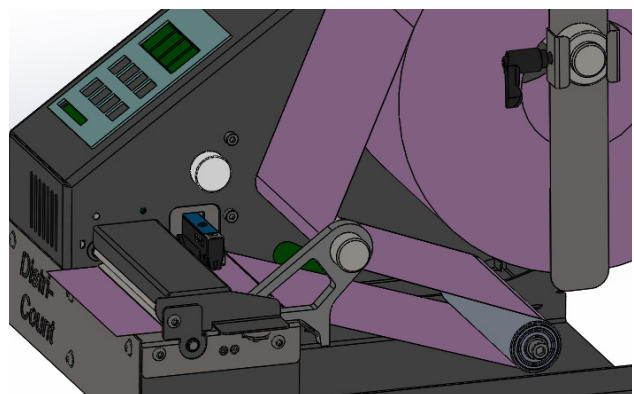

FIG. 4
- load the labels till they are circa 1 cm out the DISTRI-COUNT (FIG.4)
- close the mechanism cover again (FIG.4)
- adjust the sensor position (4) with the adjustment knob (5) so it is able to detect your labels and the label gap or a black-mark on the liner material
- the DISTRI-COUNT presents the first label precizely on the TEAR-OFF-BAR (8) and is now ready for use
- opening and closing from the mechanism cover (7) will initiate a new callibration process